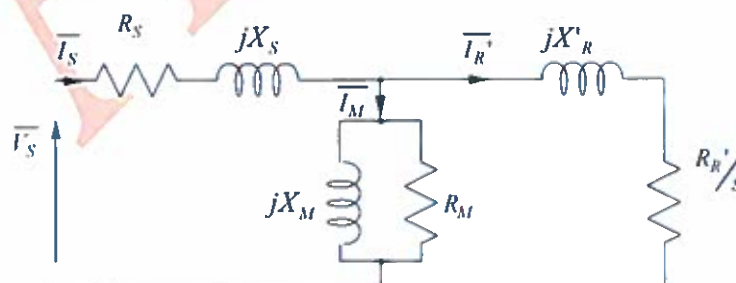

Figure Q1
- d) For the equivalent circuit of an induction machine shown in figure Q1, identify which components give rise to power loss and what physical process or feature of the machine they represent. [4]